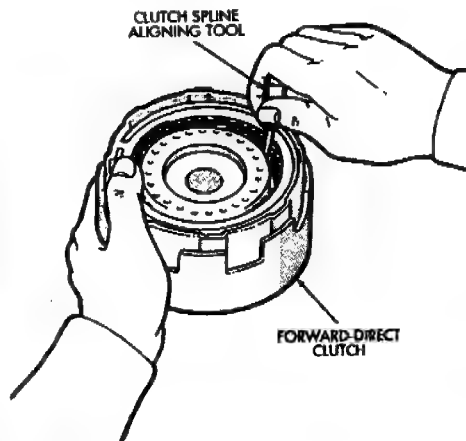

Fig. 26 Aligning Forward-Direct Clutch Splines
(32) Verify ring gear race size. Outer diameter is 47.0 mm (1.850 in); inside diameter is 26.5 mm (1.045 in).
(33) Align forward-direct clutch disc splines with screwdriver (Fig. 26).